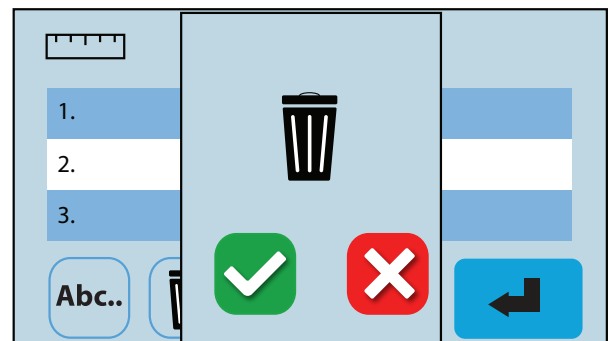

Fig. 20
4. To delete a job, select the job from the list and press the delete icon  (Fig. 20). On the confirmation screen press the green box with the check to confirm the deletion or press the red box with the X to cancel the deletion (Fig. 20).